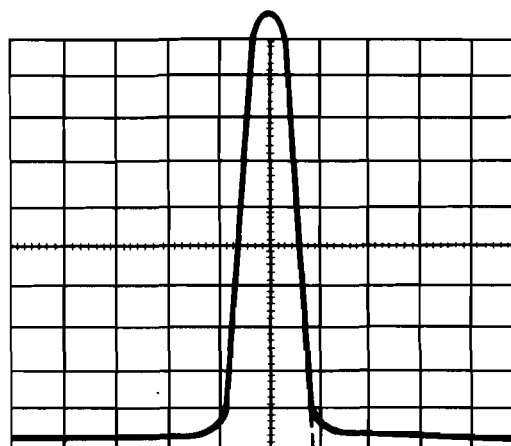

Figure 4-9. Residual FM Test Waveform
4. Choose either side of the IF filter trace and adjust the IF ATTEN (dB) control to obtain a linear slope of 10 vertical divisions at 1 kHz. (See Figure 4-9). Use only the linear portion of the waveform.
5. Calculate the detection sensitivity (or inverse slope of waveform) by dividing the horizontal displacement in Hz by the amplitude displacement in divisions, e.g., in trace shown in Figure 4-9.